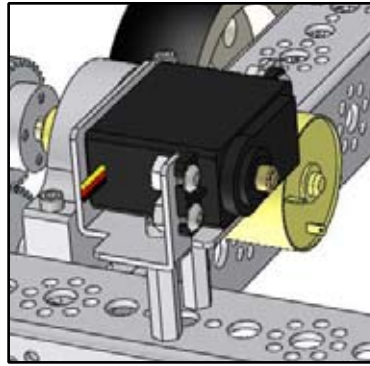

Figure B14
- 3) Mount a single-servo motor bracket on top of one set of stand-off posts with two SHCSs – make sure the bracket is attached so the servo faces the center. Remove the horn from the servo. Place the servo into the bracket so the servo shaft is centered with the channel piece on which the bracket is mounted. Secure the servo with four SHCSs and kep nuts (Figure B14).